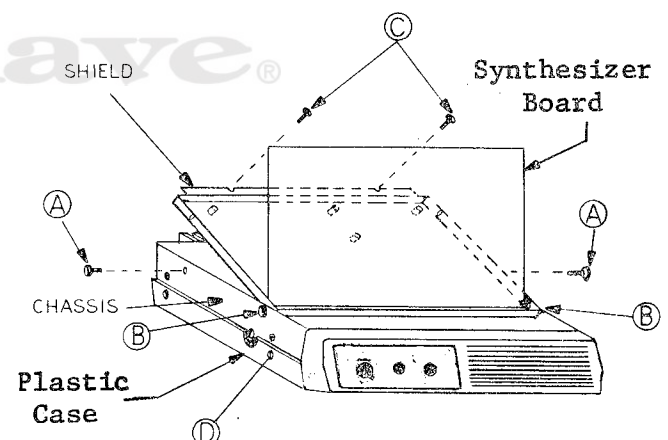

Figure 4-3. Disassembly
To gain access to bottom-side of synthesizer board, remove four screws securing PC board to shield (see Figure 4-3); then, loosen pivot screws (B) one or two turns. Pivot board forward as required.